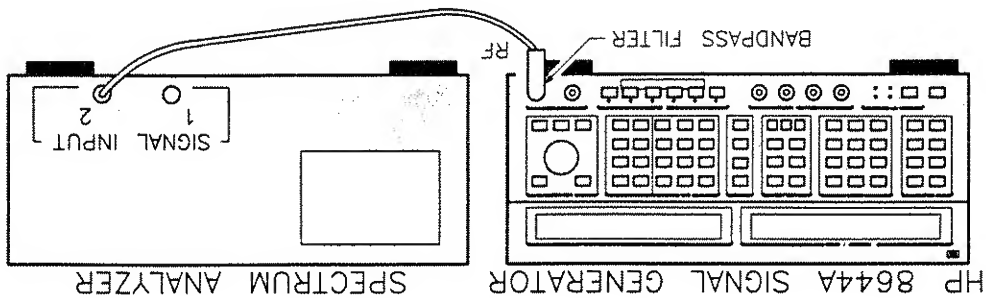

Figure 3-12. Equipment Setup for the Sweep Exercise.
1. Connect the HP 8644A to the Bandpass Filter and the Spectrum Analyzer as shown in figure 3-12. Turn on the equipment and make the following adjustments on the Spectrum Analyzer: